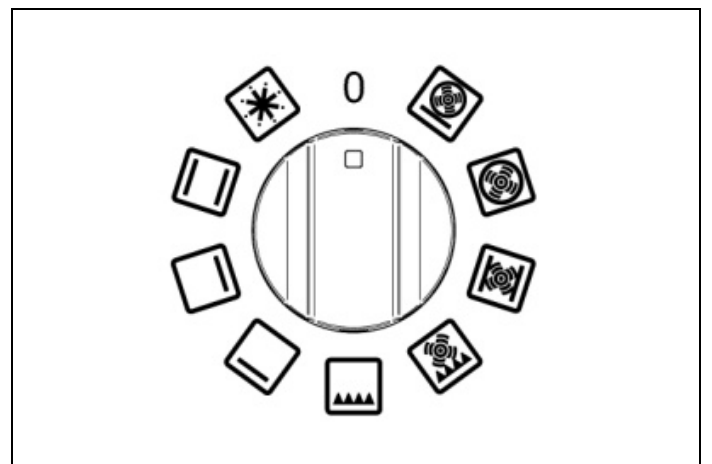
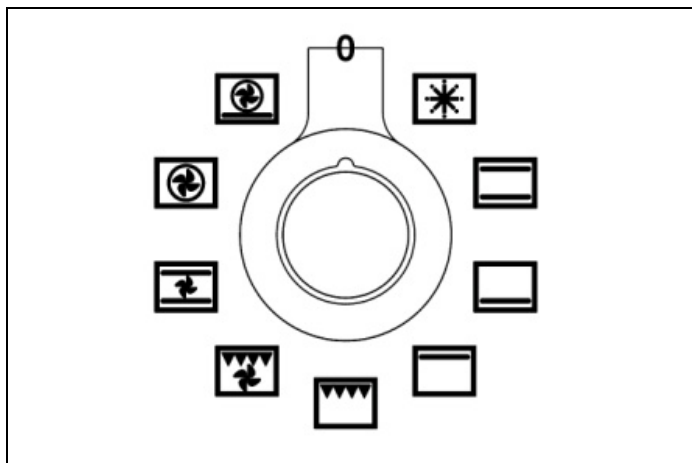
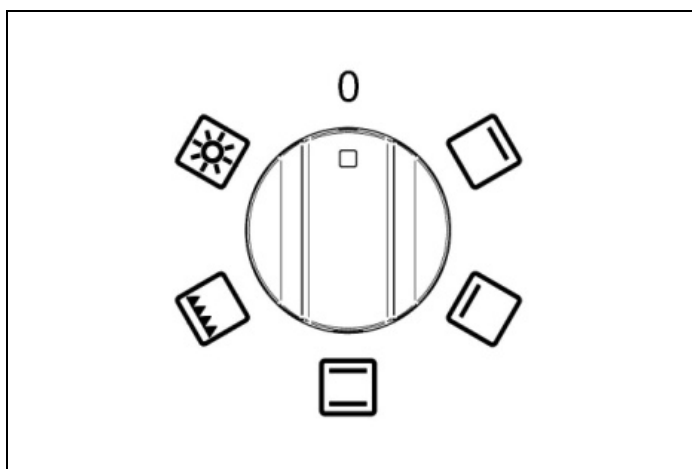
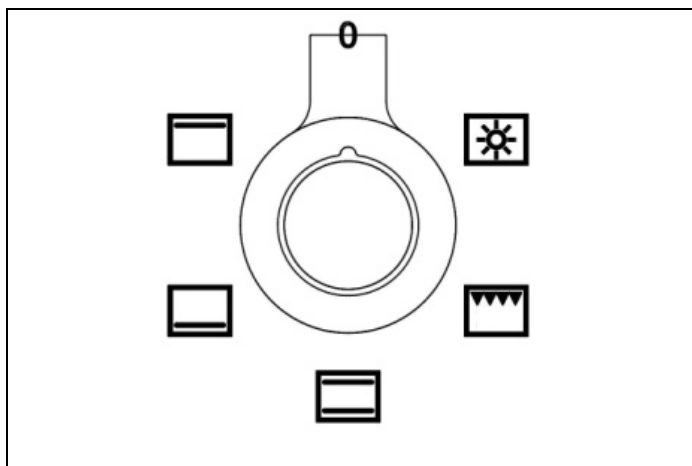

Fig. 19
Fig. 20
Fig. 21
Fig. 22
- 1) Turn the functions knob (Fig. 19 - Fig. 20 and Fig. 21 - Fig. 22) clockwise to select the function required.